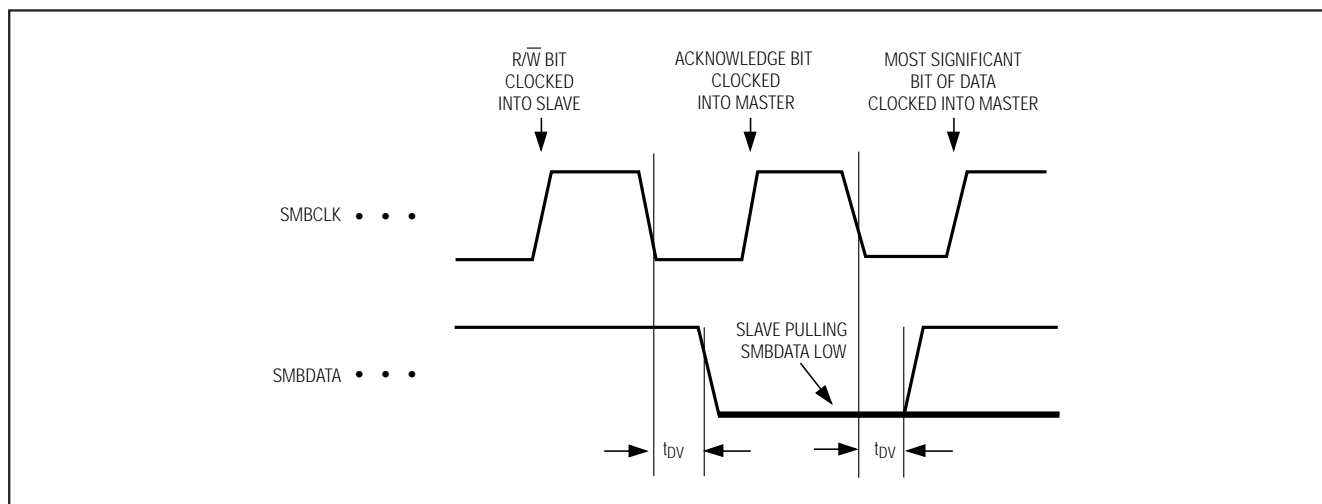

Figure 3. SMB Serial-Interface Timing—Acknowledge and Data Valid
**Note 6:** Refer to Figure 3 for the acknowledge timing diagram and tpv parameter definition.